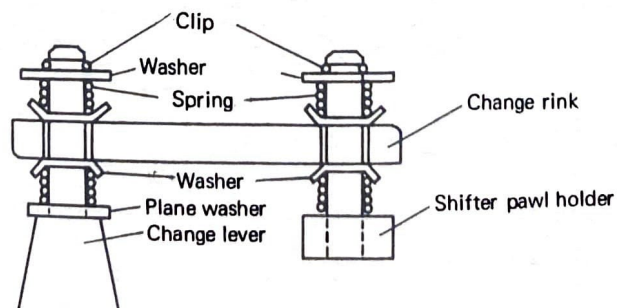

Fig. 4-12-10
- 4) Install the change link and check the shifting. Install the change pedal and by turning the drive axle, test the gear shifting. If the gears will not shift correctly, adjust the stopper adjustment bolt. (Fig. 4-12-10)